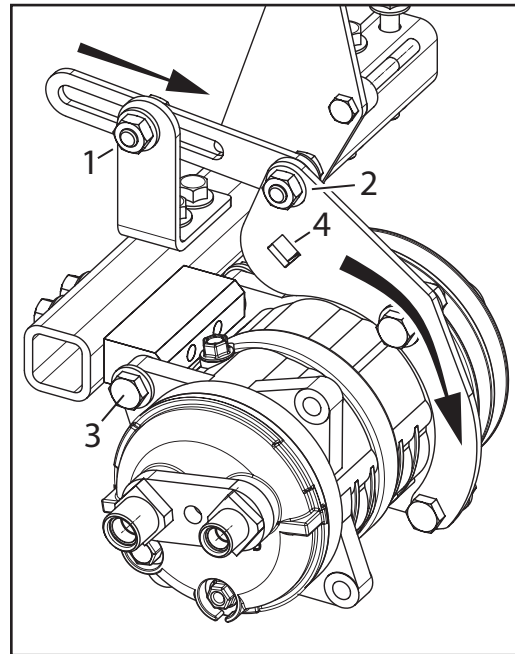

Fig. 128
- Slightly slacken the fastening screws 1, 2 and 3 (Fig. 128).
- Insert a 1/2-inch drive into the 1/2-inch square bracket hole (4), then rotate in the direction of the arrows until the correct V-belt tension is reached.